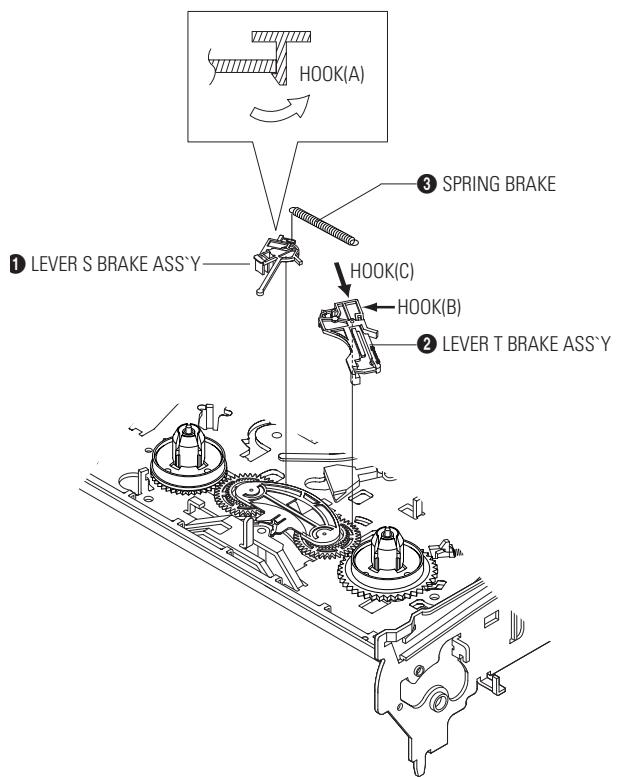

Fig. 3-17 Lever Brake S, T Ass'y Removal
- 1) Remove the Lever Brake S Ass'y (Refer to Fig 3-17).
- 2) Remove the Spring Tension Lever ①.
- 4) Lift the Lever Tension Ass'y ② & Band brake Ass'y ③.
- 1) Release the Hook [A] and the Hook [B], [C] in the direction of arrow as shown in Fig 3-17.
- 2) Lift the Lever S, T Brake Ass'y ①, ② with spring brake ③.